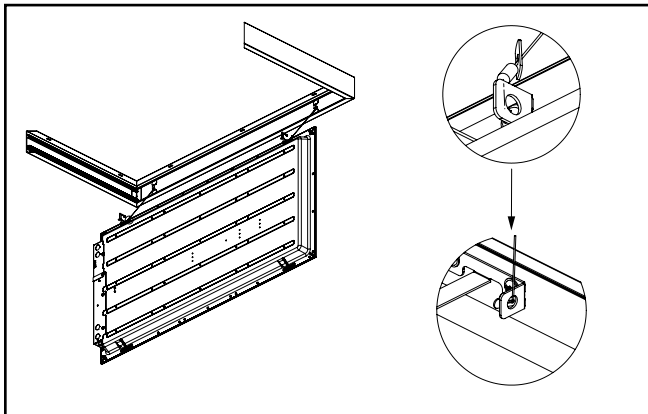

Figure 8.
- A8. Hang the fixture from the 2 tethers by inserting each toggle through a hole on the grid clip tabs on each side of the fixture. (Figure 8.)